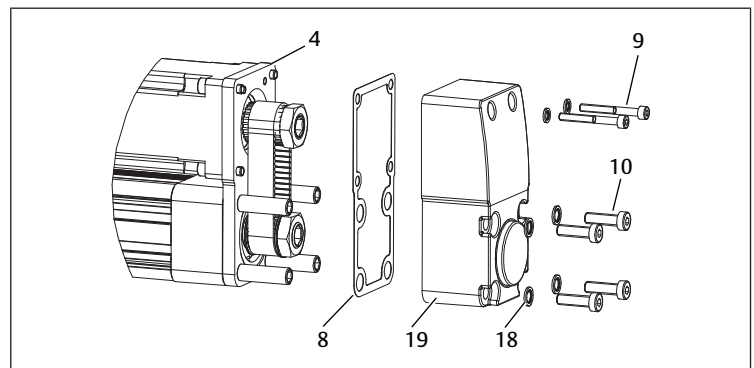

Fig. 18: Installing the gearbox cover
1. Place the flat gasket (8) between the gearbox cover (19) and the intermediate plate (4).
2. Push the seal disks (18) over the hexagon socket screws (9/10).
3. Fasten the gearbox cover. See → Fig. 18. Screws and tightening torques. See → Screws and tightening torques M_A .